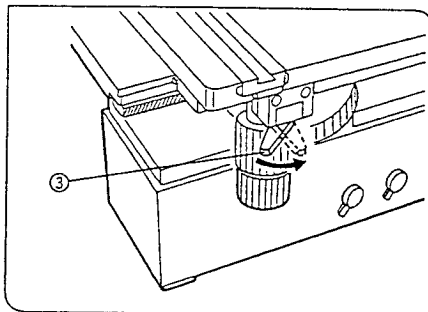

Fig. 42
1. When the Y-axis lock lever ③ is engaged, travel along the Y-axis is blocked while scan in the X-axis direction is free.
2. When releasing the lock lever, make sure to return the lever to its original position. (Fig. 42)